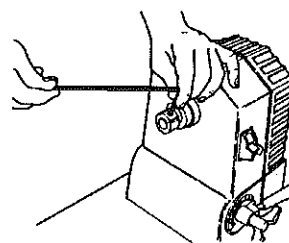

Fig.H-10
1. Turn off and unplug the Power Station, then remove the safety key (35).
2. Remove the drive shaft hub (31) from the drive shaft. See Fig.H-10.